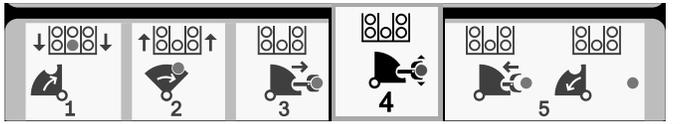

Figure 35
8. Release the button to proceed to the next step in the sequence (Figure 35).